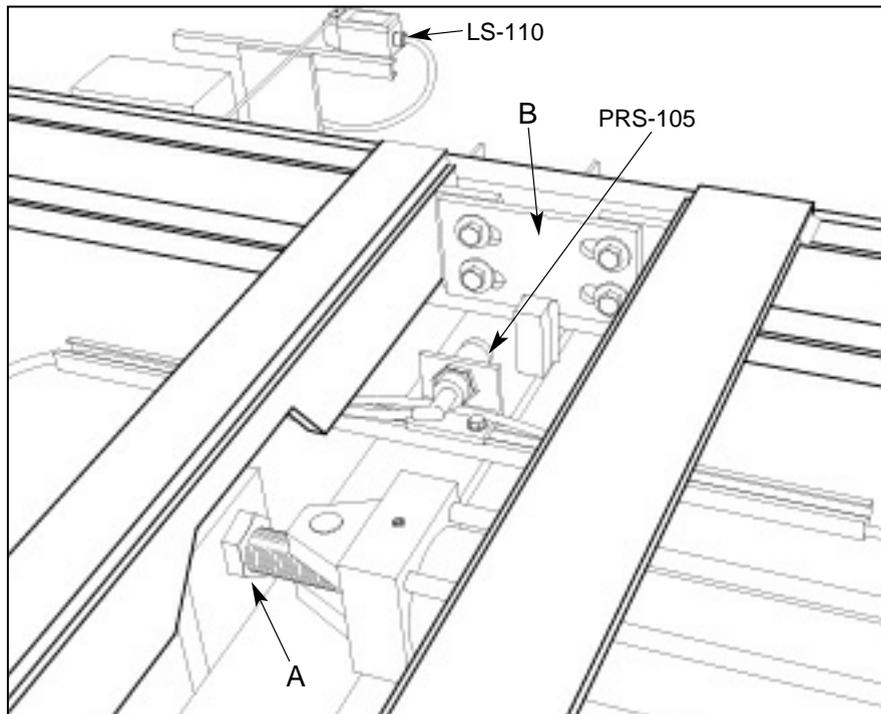

Figure 2.32 RACKVEYOR.
- 2.3.2 Adjust threaded rod on cap end of cylinder (figure 2.32, item A) so loader pushers center rack bay with loader center line.
- 2.3.3 Adjust tie-plate (figure 2.32, item B) that links the two carriages together so unloader pushers center rack bay with unloader center line while the loader rackbay is centered.
2.4.2 Adjust threaded rod on cap end of cylinder (figure 2.32, item A) so loader pushers center rack bay with loader center line.
2.4.3 Adjust tie-plate (figure 2.32, item B) that links the two carriages together so unloader pushers center rack bay with unloader center line while the loader rackbay is centered.